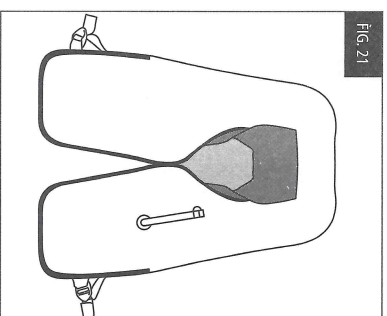

FIG. 21
1. Extend both sides of the waist belt to the maximum position, and lay your PFD on a smooth, flat surface (Fig. 21).